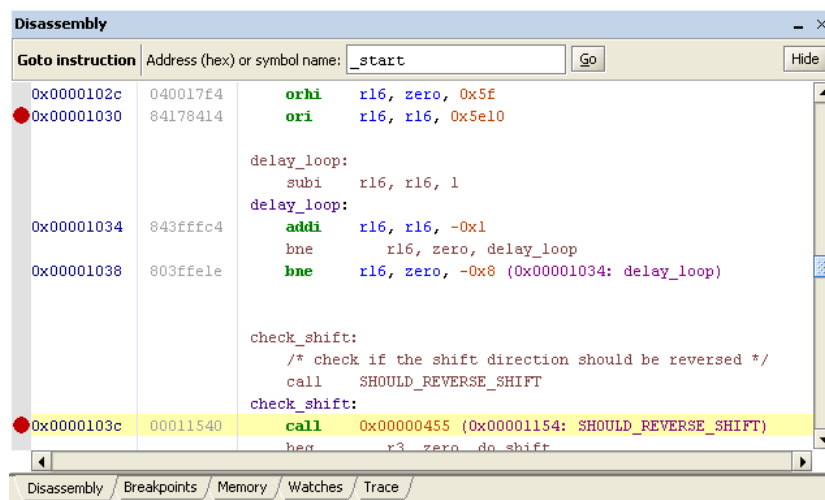

Figure 48. Disassembly window display after setting breakpoints.
4. Run the program until the breakpoint at 103c is triggered. Your **Disassembly** window should look similar to Figure 48 with the breakpoints set and the instruction at 103c highlighted.